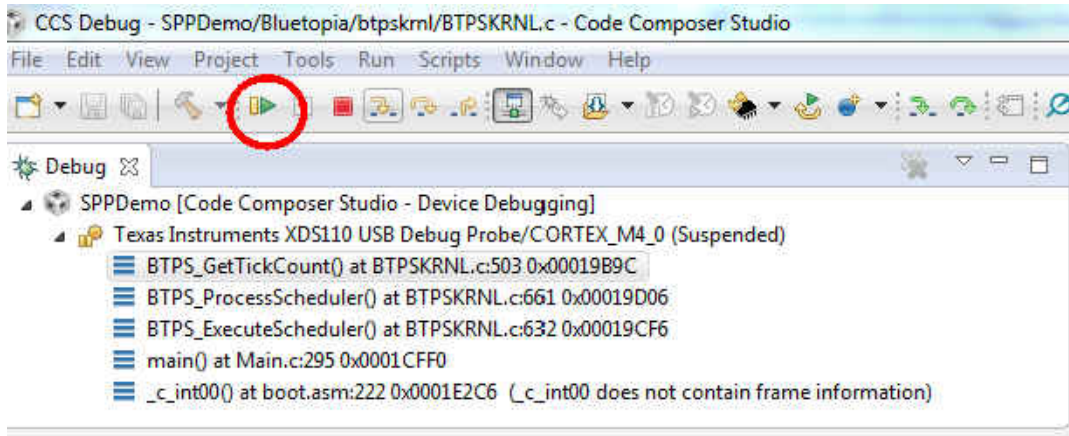

Figure 6-4. Play and Resume Icon
1. Click the play and resume icon on the CCS toolbar (see Figure 6-4).